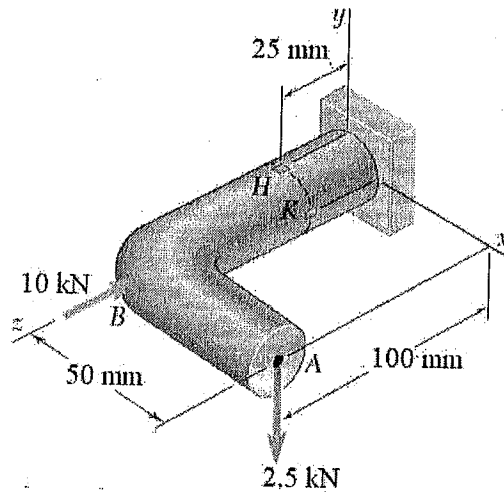

Figure 4
4. Forces are applied at points  $A$  and  $B$  of the solid cast-iron bracket shown in Figure 4. The diameter of the bracket is 20 mm. Determine the principal stresses and the maximum shearing stress at